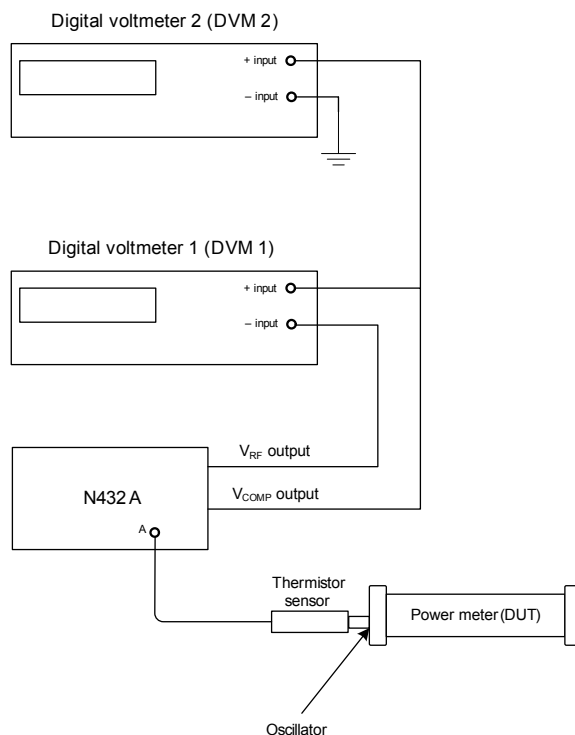

Figure 2-46 Connection diagram for VSWR measurement
- 22 Now, set up the connections shown in **Figure 2-46**. Connect the N432A rear panel V_{RF} output connector to the negative input lead of DVM 1. Connect the N432A rear panel V_{COMP} output connector to the positive input leads of both DVMs.
- 29** Now, set the N432A bridge resistance to 100 Ω . Again, set up the connections shown in **Figure 2-46**.